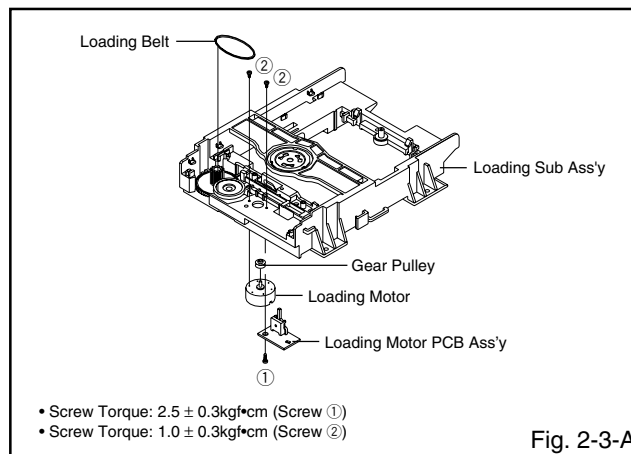

Fig. 2-3-A
1. In case of the Pulley Motor installation, check if the value of the Fig. 2-3-B is correct.